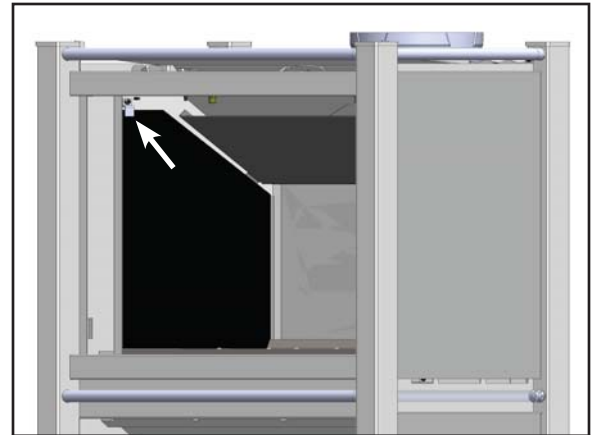

Fig.12
7. Loosen the top left tab as shown by arrow, install the left glass up under the tab and onto the support. (Fig.12) **NOTE: THE SIDE WITH LABEL SHOULD BE FACING FIREBOX, REMOVE BEFORE FIRING. HANDLE GLASS CAREFULLY BY THE EDGES, DO NOT LEAVE FINGERPRINTS, CLEAN IF NECESSARY**